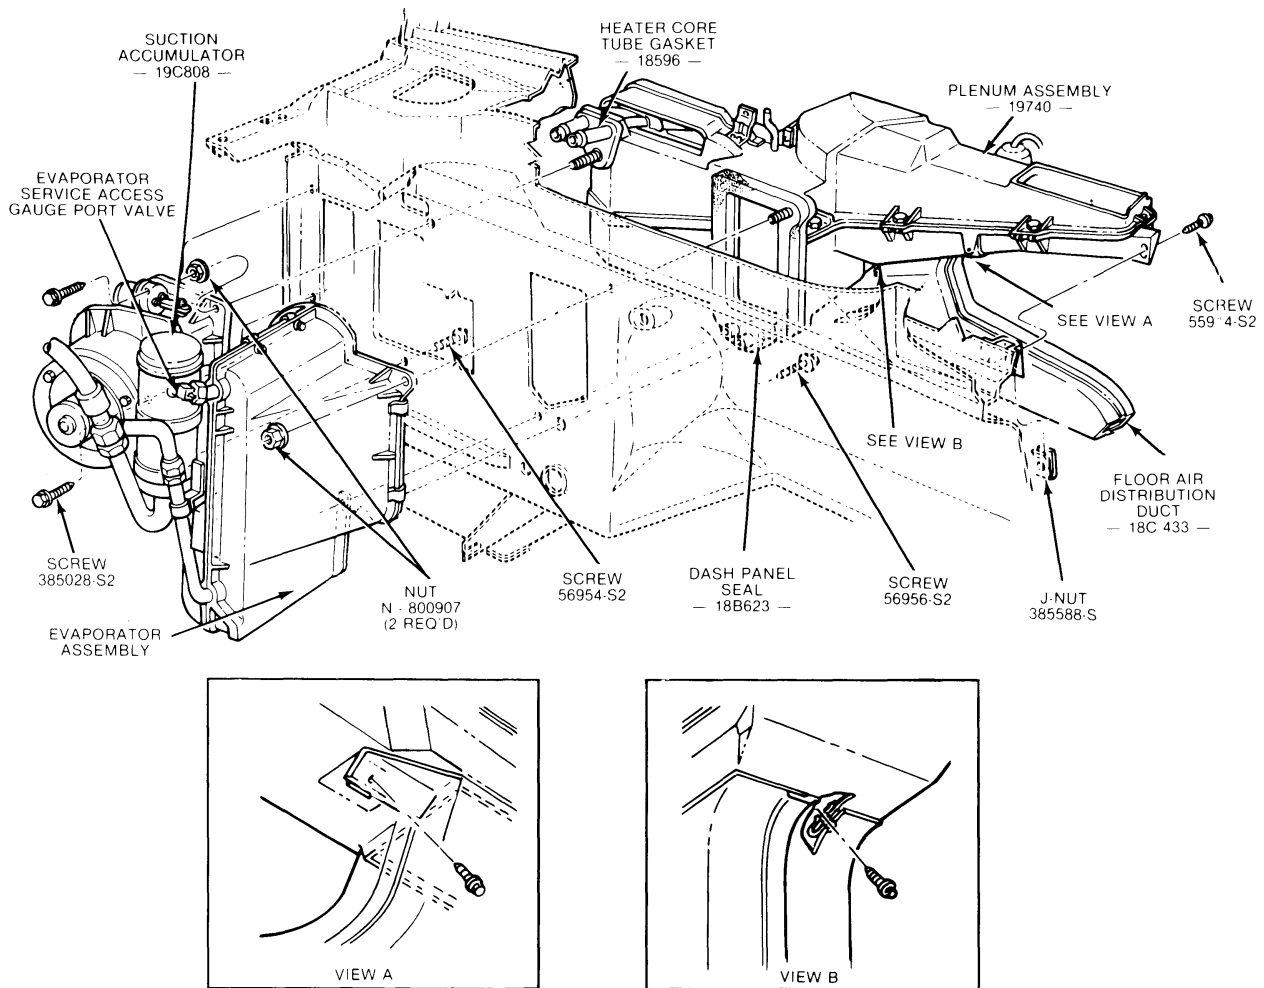

Fig. 18 — Evaporator and Plenum Assemblies Removal
2. Working in the passenger compartment, remove two (2) screws attaching the bottom of the evaporator case to the dash panel (Fig. 18). One screw also attaches the lower edge of the plenum to the dash panel.
4. Remove two screws attaching the right side of the recirc duct to the dash panel (Fig. 18).
6. Remove two (2) retaining nuts attaching the evaporator case and recirc duct to the dash panel (Fig. 18).
3. Install the five (5) screws to attach the recirc duct to the evaporator case.
4. Install two (2) screws to attach the right side of the recirc duct to the dash panel.
5. Working in the passenger compartment, install two screws to attach the bottom of the evaporator case to the dash panel (Fig. 18).
7. Working in the passenger compartment, remove two (2) screws attaching the bottom of the evaporator case to the dash panel (Fig. 18). One screw also attaches the lower edge of the plenum to the dash panel.
9. Remove two screws attaching the right side of the recirc duct to the dash panel (Fig. 18).
10. Remove two (2) retaining nuts attaching the evaporator case and the recirc duct to the dash panel (Fig. 18).
12. Remove five (5) screws attaching the recirc duct to the evaporator case and remove the recirc duct.
1. Position the recirc duct and gasket to the evaporator case and install the five (5) attaching screws.
2. Position the recirc duct and evaporator case to the dash panel and install the two (2) retaining nuts along the top edge of the assembly (Fig. 18).
3. Install two (2) screws along the right side of the recirc duct (Fig. 18).
4. Working in the passenger compartment, install two screws to attach the bottom of the evaporator case to the dash panel (Fig. 18).
6. Working in the passenger compartment, remove one (1) screw attaching the bottom of the plenum to the dash panel (Fig. 18).
8. Remove six (6) screws attaching the left evaporator housing to the evaporator case.
4. Position the left evaporator housing to the evaporator case and install six (6) screws to attach the housing to the evaporator case along the flange.
5. Install the two (2) spring clips to retain the housing cover plate to the left edge of the left evaporator housing.
7. In the passenger compartment, install one screw to attach the lower edge of the plenum and the bottom of the evaporator case to the dash panel (Fig. 18).